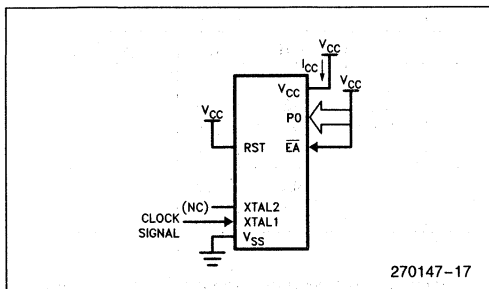

Figure 6. I_{CC} Test Condition, Active Mode. All other pins are disconnected.
- 6. See Figures 6 through 9 for I_{CC} test conditions. Minimum V_{CC} for Power Down is 2V.